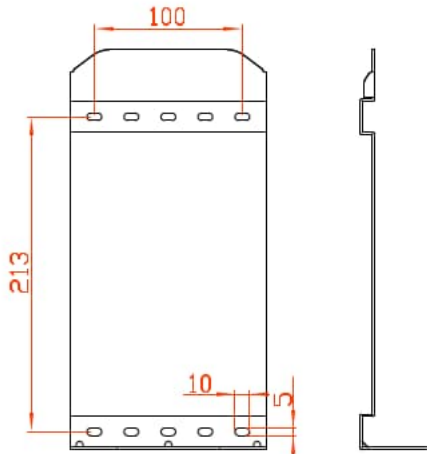
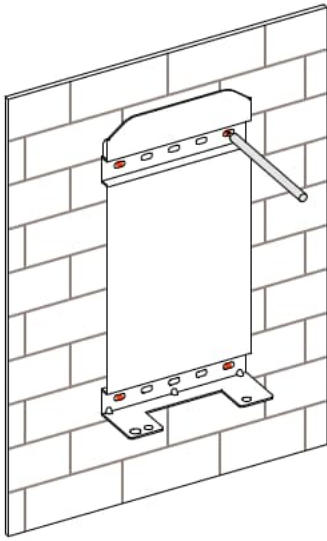

Figure3-6 Optimized installation size (unit: mm)
Figure3-7 Mark the drilling position
- Step 2 Mark the position of installation holes on the wall according to the dimensions of the fixing holes of the installation holder (as shown in Figure3-6), and drill 4 holes of $\Phi 8.5\text{mm}$ on the wall according to marked position, as shown in Figure3-7